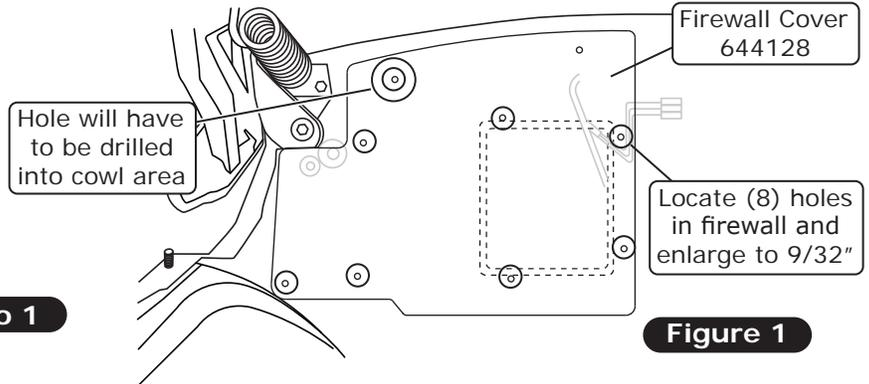

Figure 1
3. Place the firewall cover onto the firewall. Locate the (8) mounting holes and enlarge the holes in the firewall to 9/32" to accommodate the 1/4-20 mounting bolts (See Figure 1, below). **NOTE: The upper hole will have to be drilled into the cowl area (See Figure 1, below).**